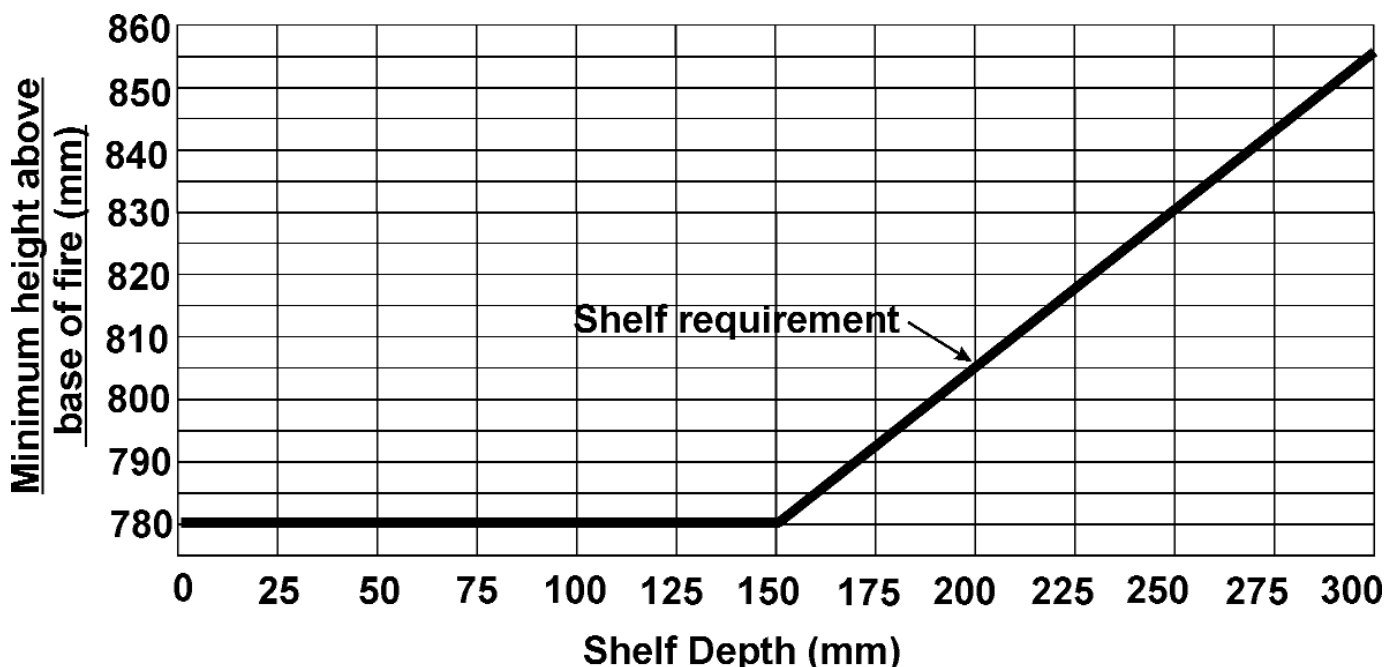

Figure 1. Combustible shelf clearances.
**Do** provide a minimum clearance of 780mm from the base of the fire to any shelf made of wood or other combustible material where the shelf is not more than 150mm deep. For a shelf deeper than 150mm, add 12.5mm to the clearance for every 25mm of additional shelf depth (See figure 1)